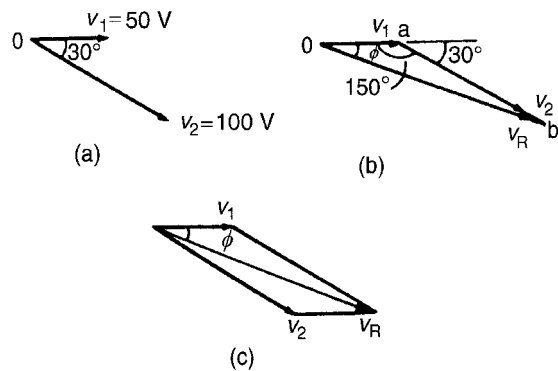

Figure 14.11
Phasors are usually drawn at the instant when time $t = 0$. Thus v_1 is drawn horizontally 50 units long and v_2 is drawn 100 units long lagging v_1 by $\pi/6$ rads, i.e. 30° . This is shown in Fig. 14.11(a) where 0 is the point of rotation of the phasors.
- (i) Draw v_1 horizontal 50 units long, i.e. oa of Fig. 14.11(b)
- (ii) Join v_2 to the end of v_1 at the appropriate angle, i.e. ab of Fig. 14.11(b)
Alternatively, when two phasors are being added the resultant is always the diagonal of the parallelogram, as shown in Fig. 14.11(c).
A more accurate solution is obtained by calculation, using the cosine and sine rules. Using the cosine rule on triangle *Oab* of Fig. 14.11(b) gives: